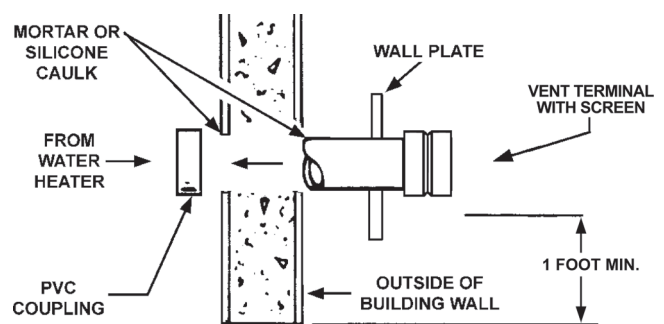

Figure 12: VENT TERMINATION
2. Through-the-Wall Termination - horizontal vent termination directly through an outside wall, see Figure 12 on page 27..
The first step is to determine where the vent pipe will terminate. See Figures 12 through 20. The vent may terminate through a sidewall as shown in Figures 12, 14 and 15 or through the roof as shown in 18, 19 and 20.
Instructions on proper installation through a sidewall are provided in Figures 12, 14 and 15.
Cut a length of pipe about 3.5 inches (8.9 cm) longer than the wall thickness at the opening. Glue the vent terminal to this section of pipe. Slide the wall plate over the pipe to stop against the vent terminal. Place a bead of caulking (not supplied) around the gap between the pipe and cover plate. Apply enough to fill some of the gap between the pipe and wall. Place some of the caulking on the back of the plate to hold it against the wall after installation. If the vent pipe is installed up to the wall, with a coupling on the end against the wall opening, the pipe with the vent terminal can be prepared for gluing before inserting through the wall. Slide the pipe through the wall and insert into the coupling on the other side of the wall, making sure that the vent terminal ends up pointed in the correct position, see Figure 12.